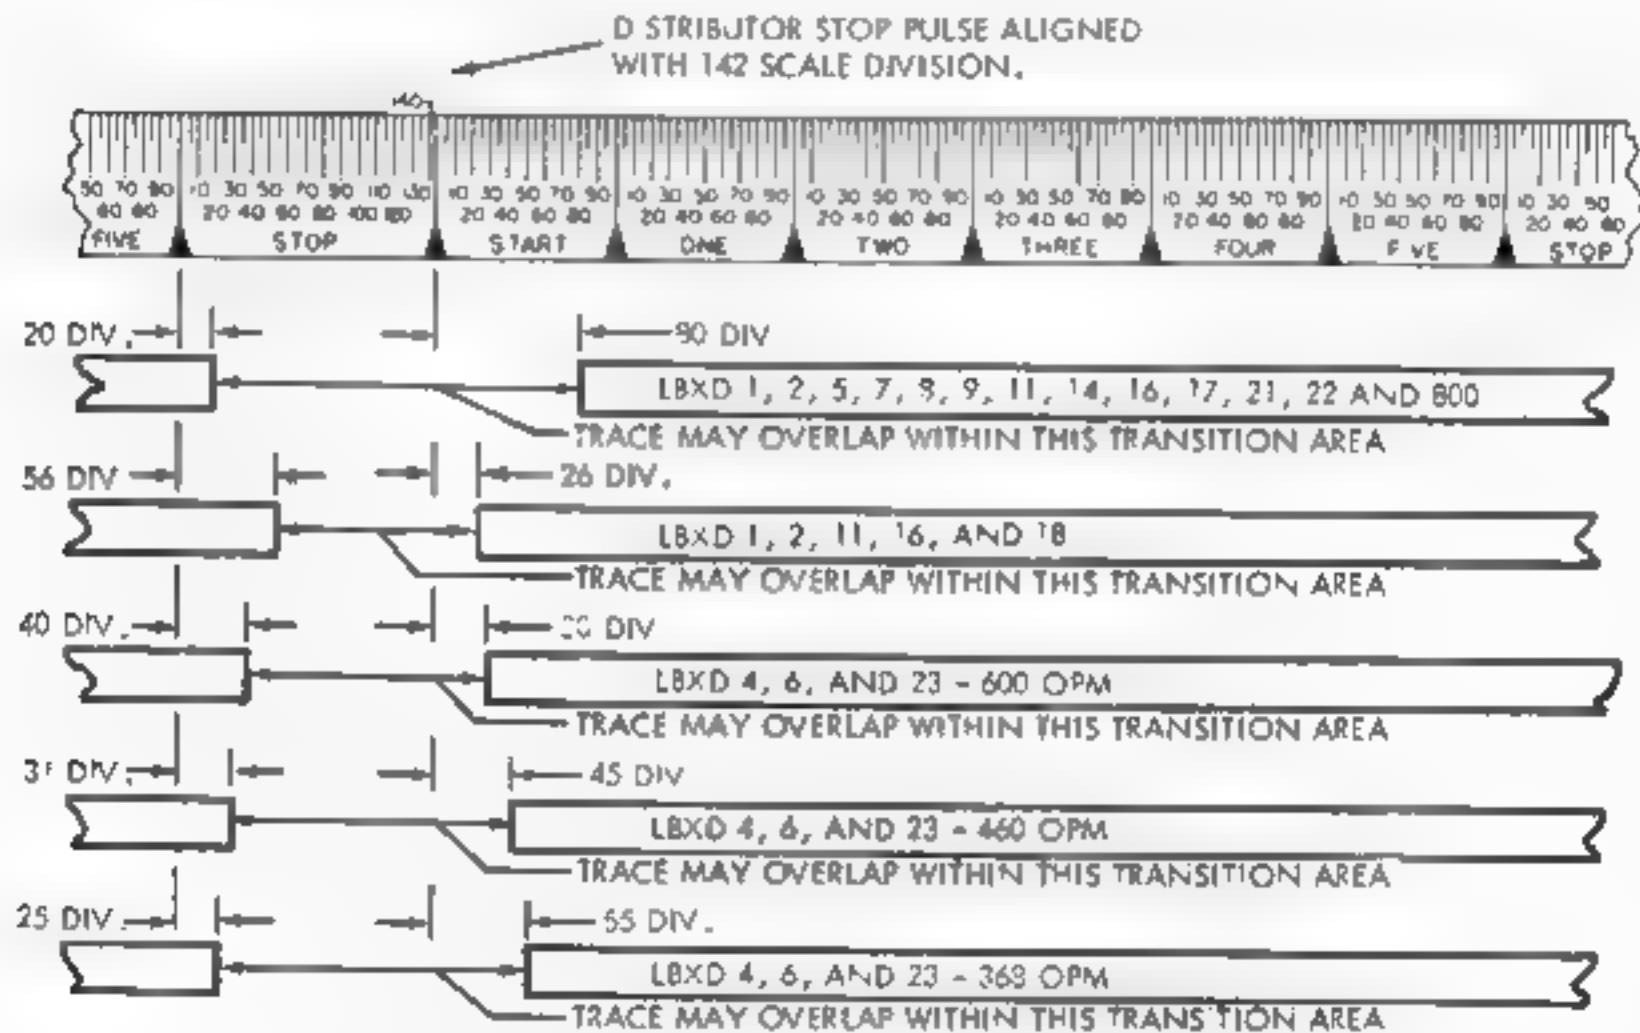

FIGURE 8. TRANSMITTER CONTACT REQUIREMENTS
4) Transmitter Contacts - 5 and 8 Level Unit (See Figure 8)